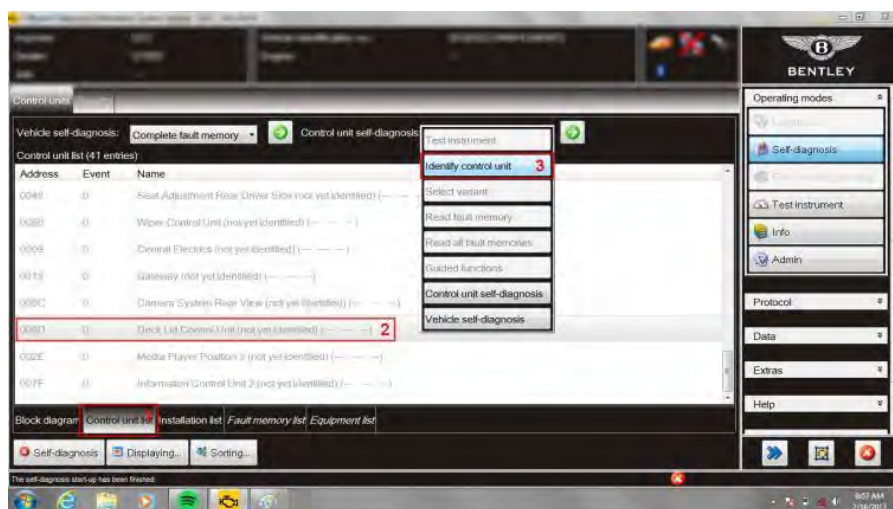

Figure 2
- Within *Control units list* (1) scroll down – Select (single touch) *006D Deck Lid Control Unit* (2) – Reveal drop down menu (extended touch and release), Select *Identify control unit* (3) (see Figure 2)